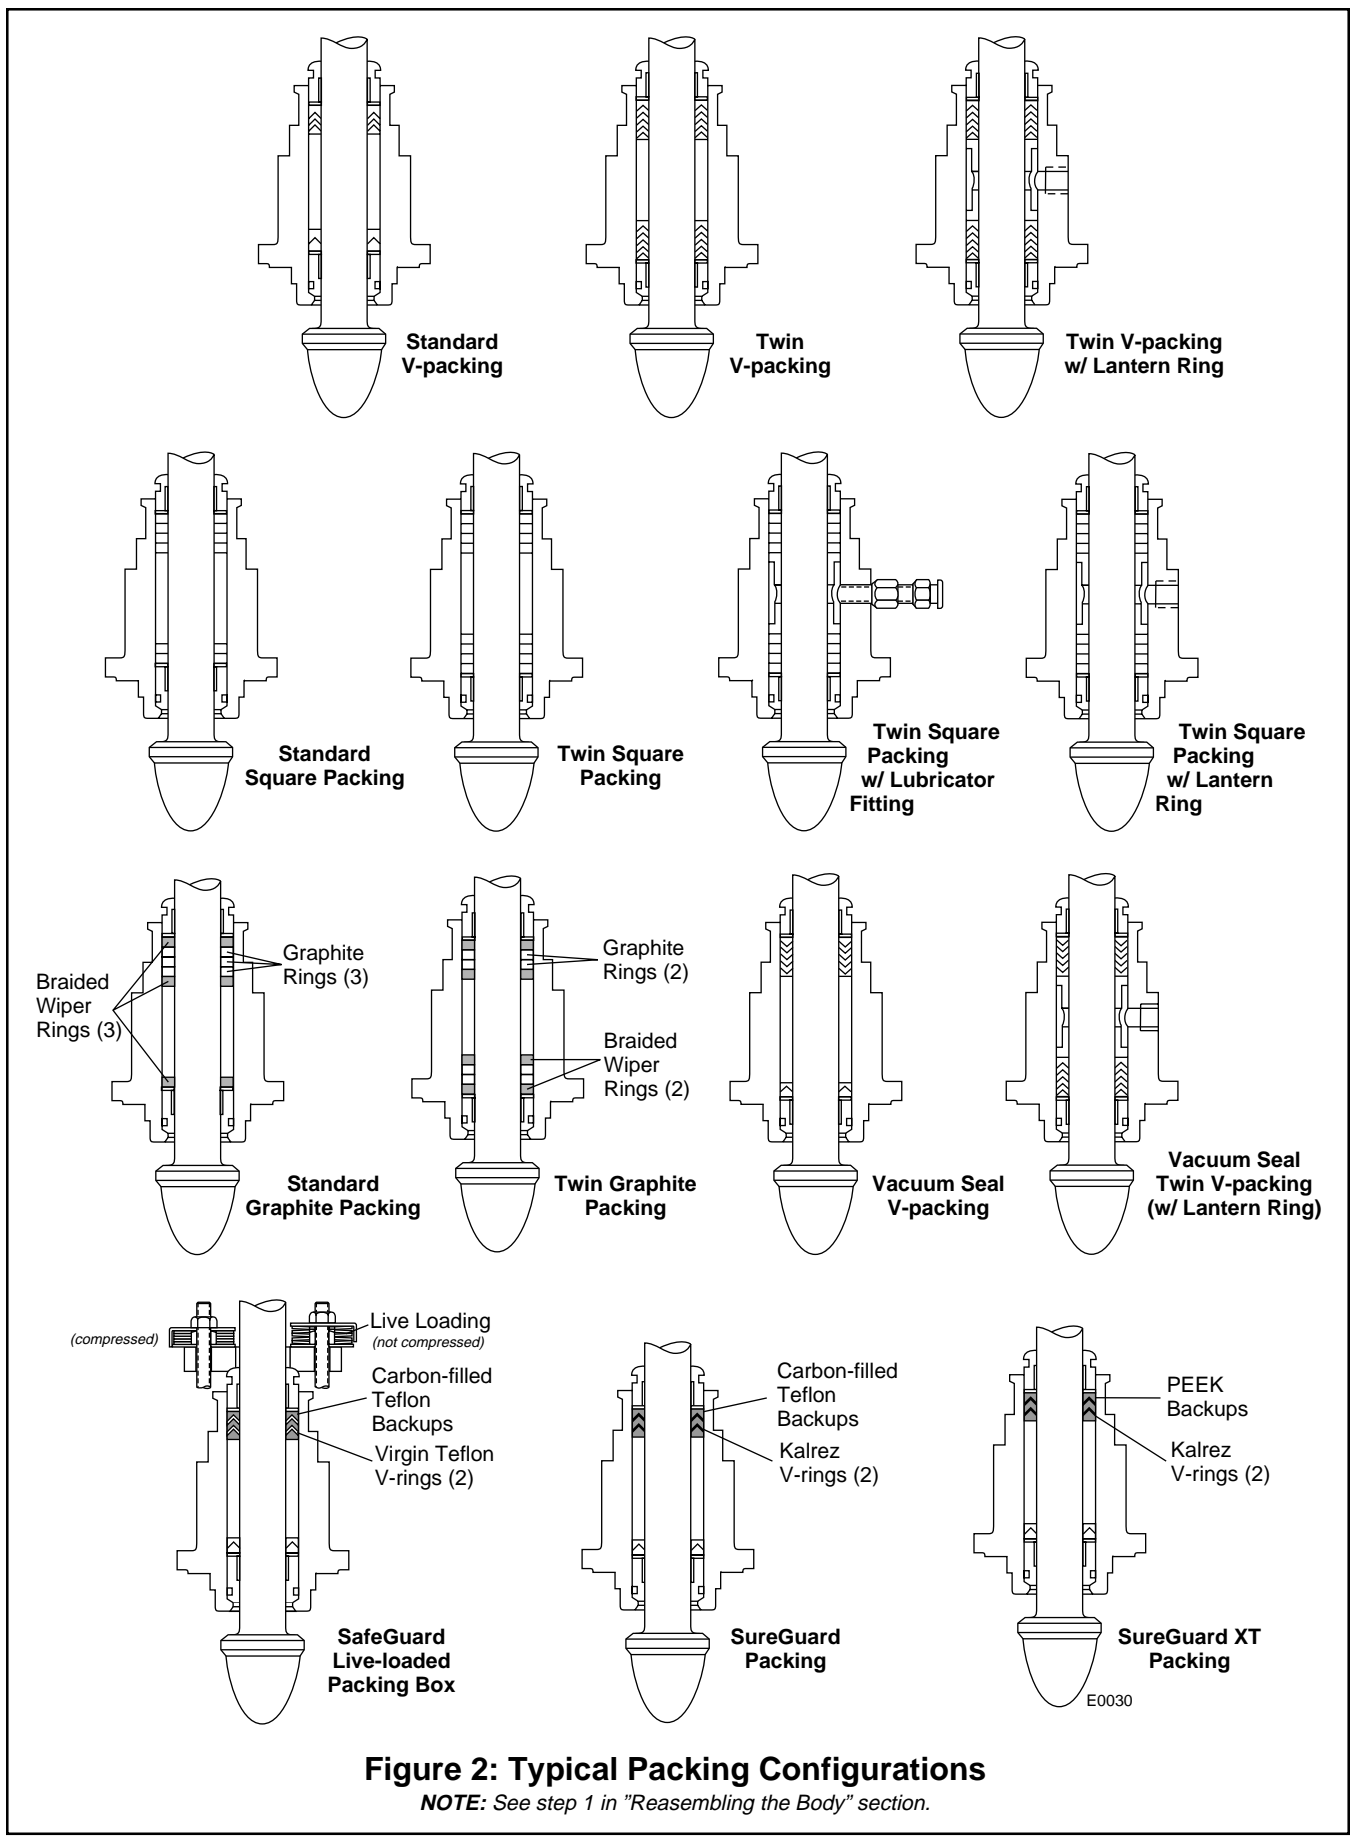

Figure 2: Typical Packing Configurations
1. If the packing has been removed, refer to Figure 2 and reinstall new packing exactly as shown. Make sure at least $\frac{1}{8}$ -inch is left at the top of packing box for the top guide to enter. Different spacer lengths permit a wide variety of packing configurations, such as twin seal and vacuum-pressure packing.